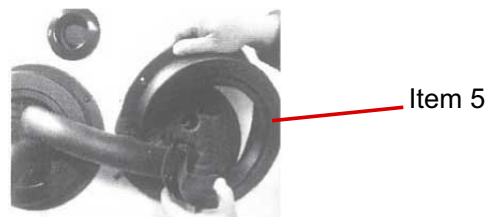

Fig. 4: Attaching the cover
- 5) Put on the cover (item 5) and secure it to the insulation with the enclosed tapping screws (Figure 4).